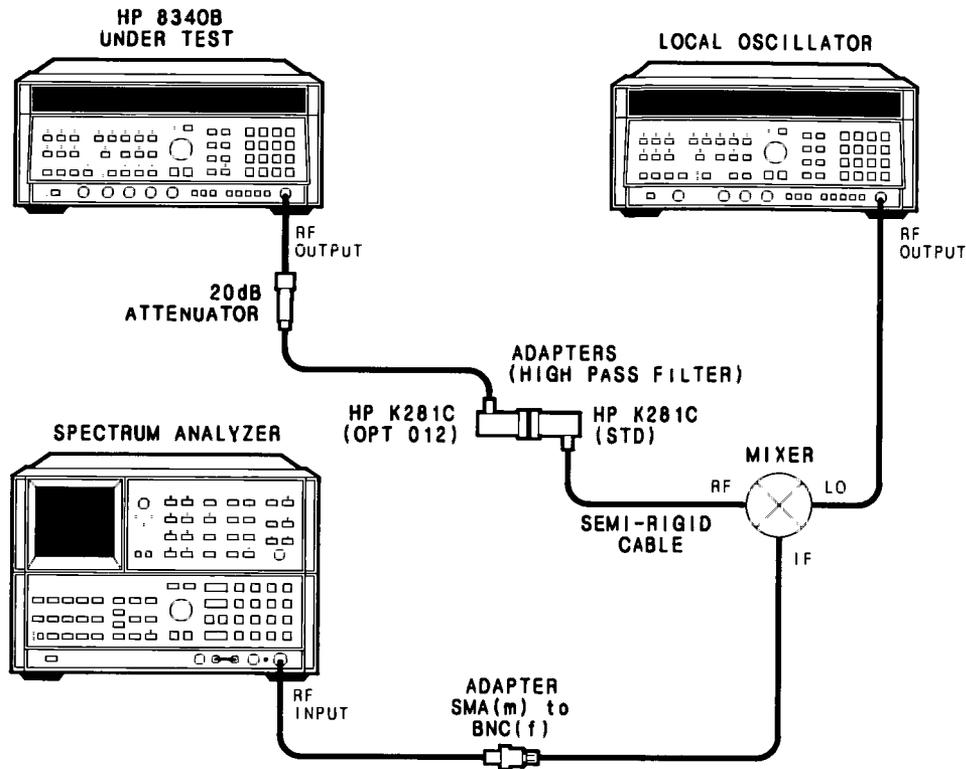

Figure 4-8. Spurious Signals Test Setup (22 to 26.5 GHz)
1. Connect equipment as shown in Figure 4-8. Allow at least a one hour warm up time. On the LO, press **[INSTR PRESET]** and **[PEAK]** (turns PEAK on).